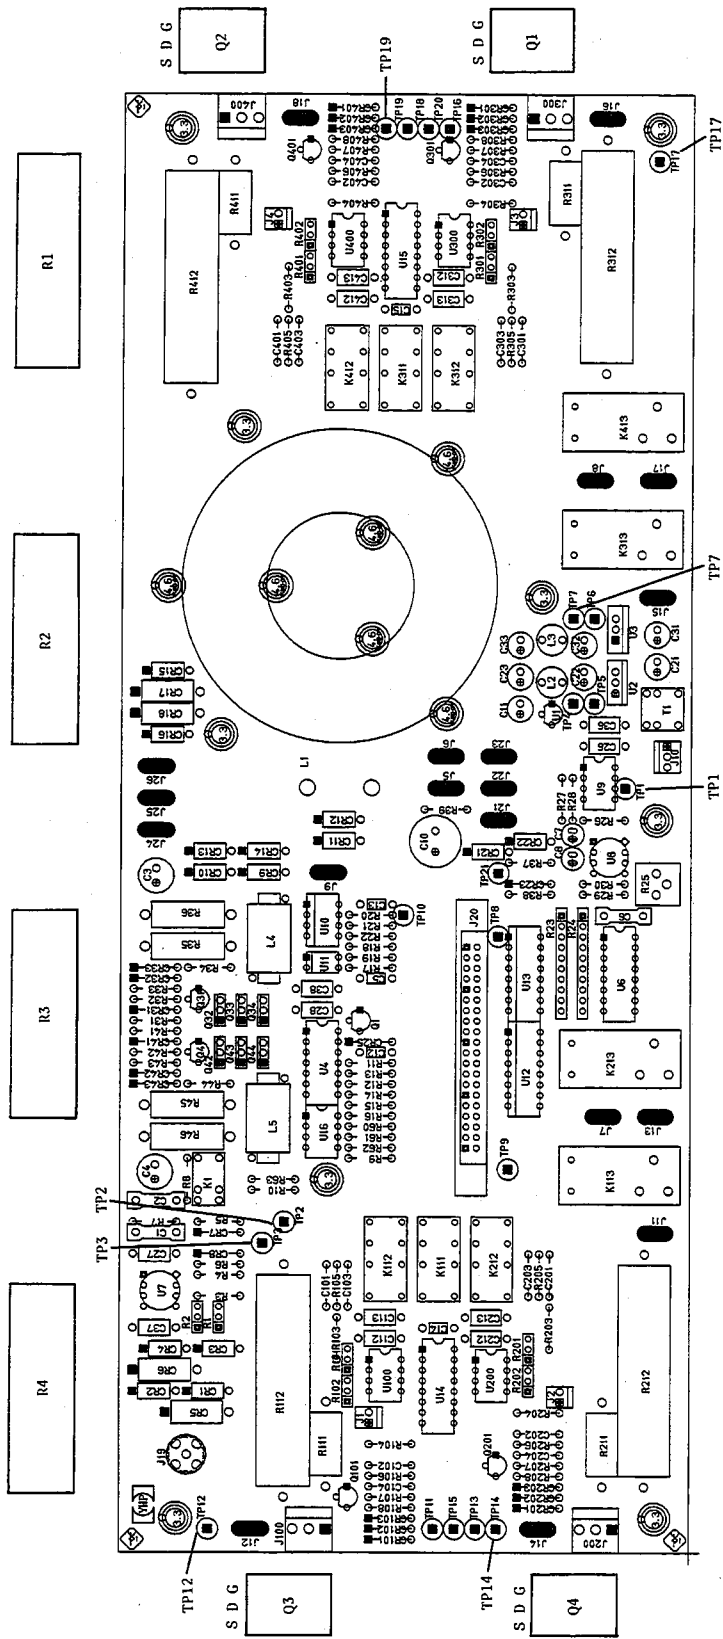

Figure 5-7. A2 Bias Current Sink Component Locations
5. Use a DVM to make sure that the voltage drop across the sense resistor (V_{sense}) is within the range given by the following equation. (V_{sense} should be between 0.9 V and 1.1 V, when the bias current is set to 1.00 A, 5.0 A, or 20.0 A.) The following table lists the range select sense resistors according to the bias current range selected. The sense resistor locations are shown in Figure 5-7.